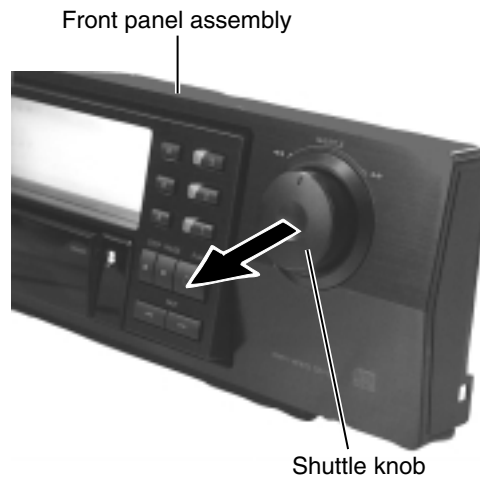

Fig.16
**■ Removing the Volume board (See Fig.16 and 17)**